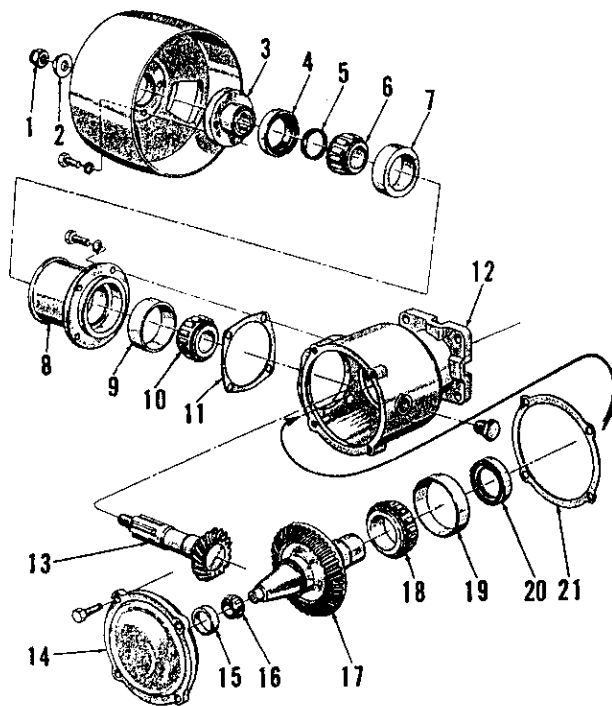

Fig. 367—Exploded view of belt pulley assembly available for model 4000 tractor.
338. Refer to exploded view of unit in Fig. 367 and proceed as follows: Drain lubricant and unbolt pulley from hub (3). Unbolt pulley shaft bearing retainer (8) from housing (12) and re-